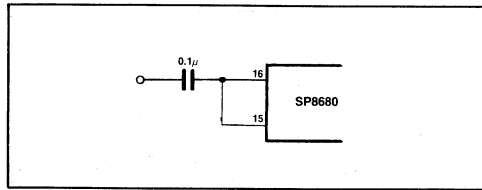
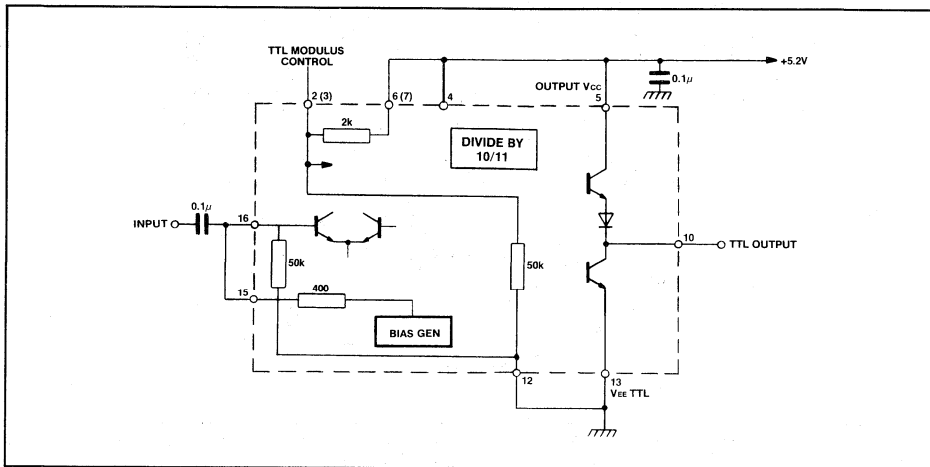
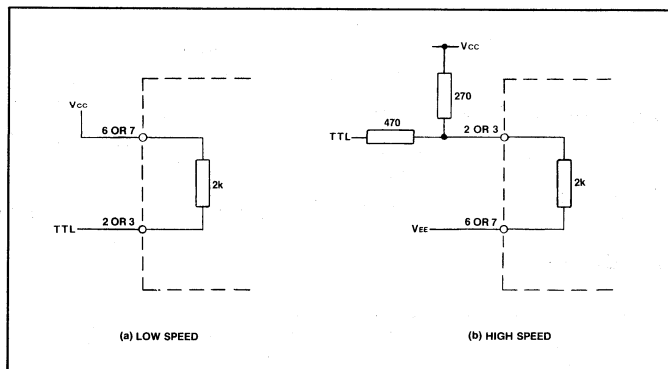

Fig.6 AC coupled input
Fig.7 Typical application showing interfacing
Fig.8 TTL interface to PE1 and PE2
1. The clock input, which is ECL 10K compatible throughout the temperature range, can also be directly coupled to TTL as shown in Fig.8. The clock can also be capacitively coupled to the signal source (see Fig.6). Connecting the internally-generated bias voltage to the clock input, i.e. pin 15 to pin 16 centres the clock input about the switching threshold (see Fig.7).
4. Both control inputs (PE1 and PE2) are ECL 10K compatible throughout the temperature range. Each control input is provided with a pull up resistor, the remote ends of which are connected to pins 6 and 7. This allows the pull up resistors to be unused if so desired, or to be used to interface from TTL (see Fig.8). If interfacing to ECL is required then pins 6 and 7 should be left open circuit; alternatively they can be connected to  $V_{EE}$  to act as pull-down resistors. When high, the master set input sets the counter to the eleventh state, is asynchronous, and overrides the clock input.